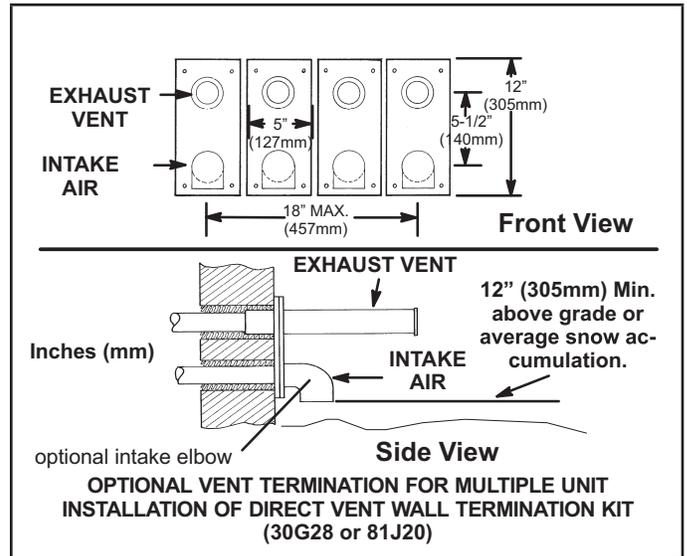

FIGURE 41
- 8 - A multiple furnace installation may use a group of up to four terminations assembled together horizontally, as shown in figure 41.